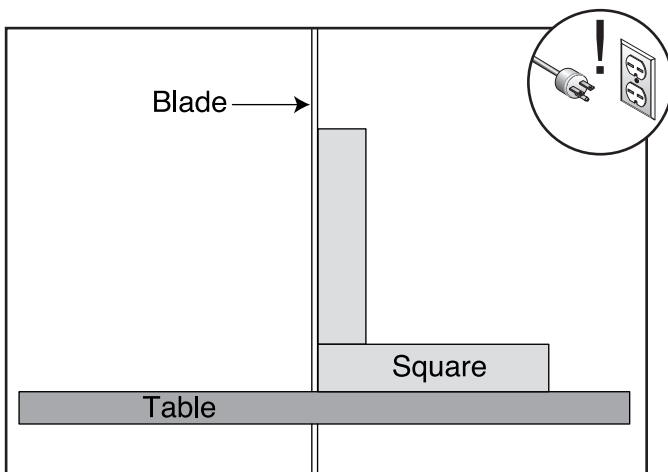

Figure 26. Squaring table to blade.
5. Raise the upper blade guide assembly and place a 6" machinist's square or try-square on the table next to the side of the blade as illustrated in **Figure 26**. Adjust the positive stop bolt to raise or lower the table until the table is 90° to the blade.